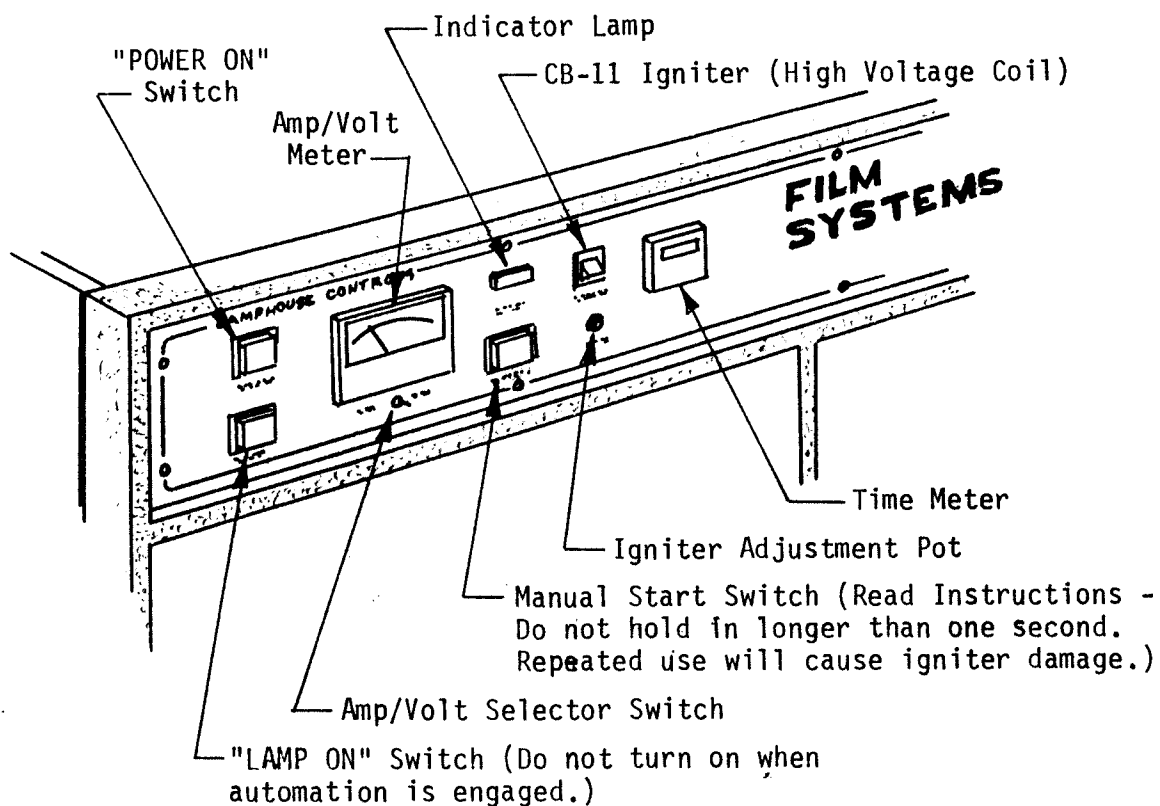

Figure 1-4. System Controls Location
1.5 CONTROL PANEL (Figure 1-4)